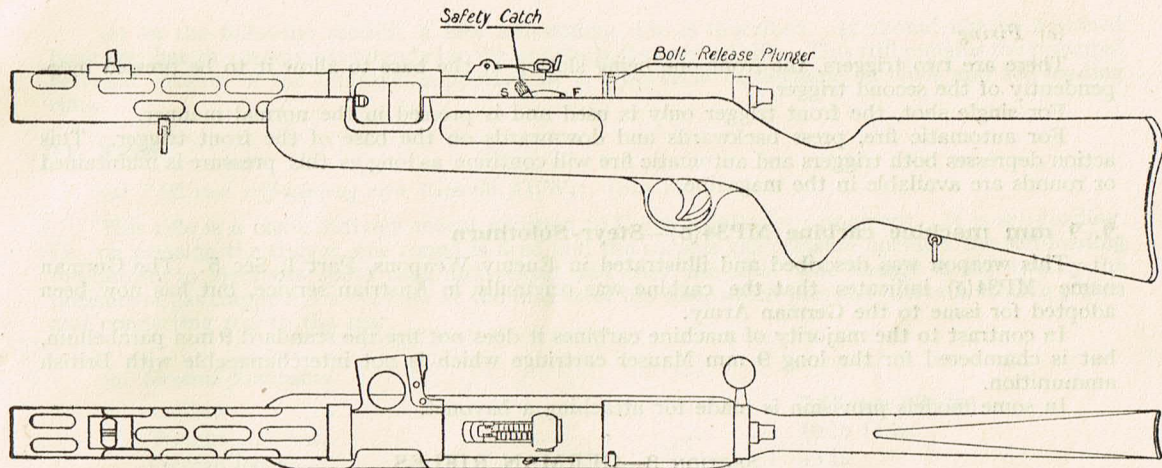

FIG 10—9 mm MACHINE CARBINE MP 34¹ (BERGMANN)
8. 9 mm machine carbine MP34¹ (Bergmann) (Fig 10)